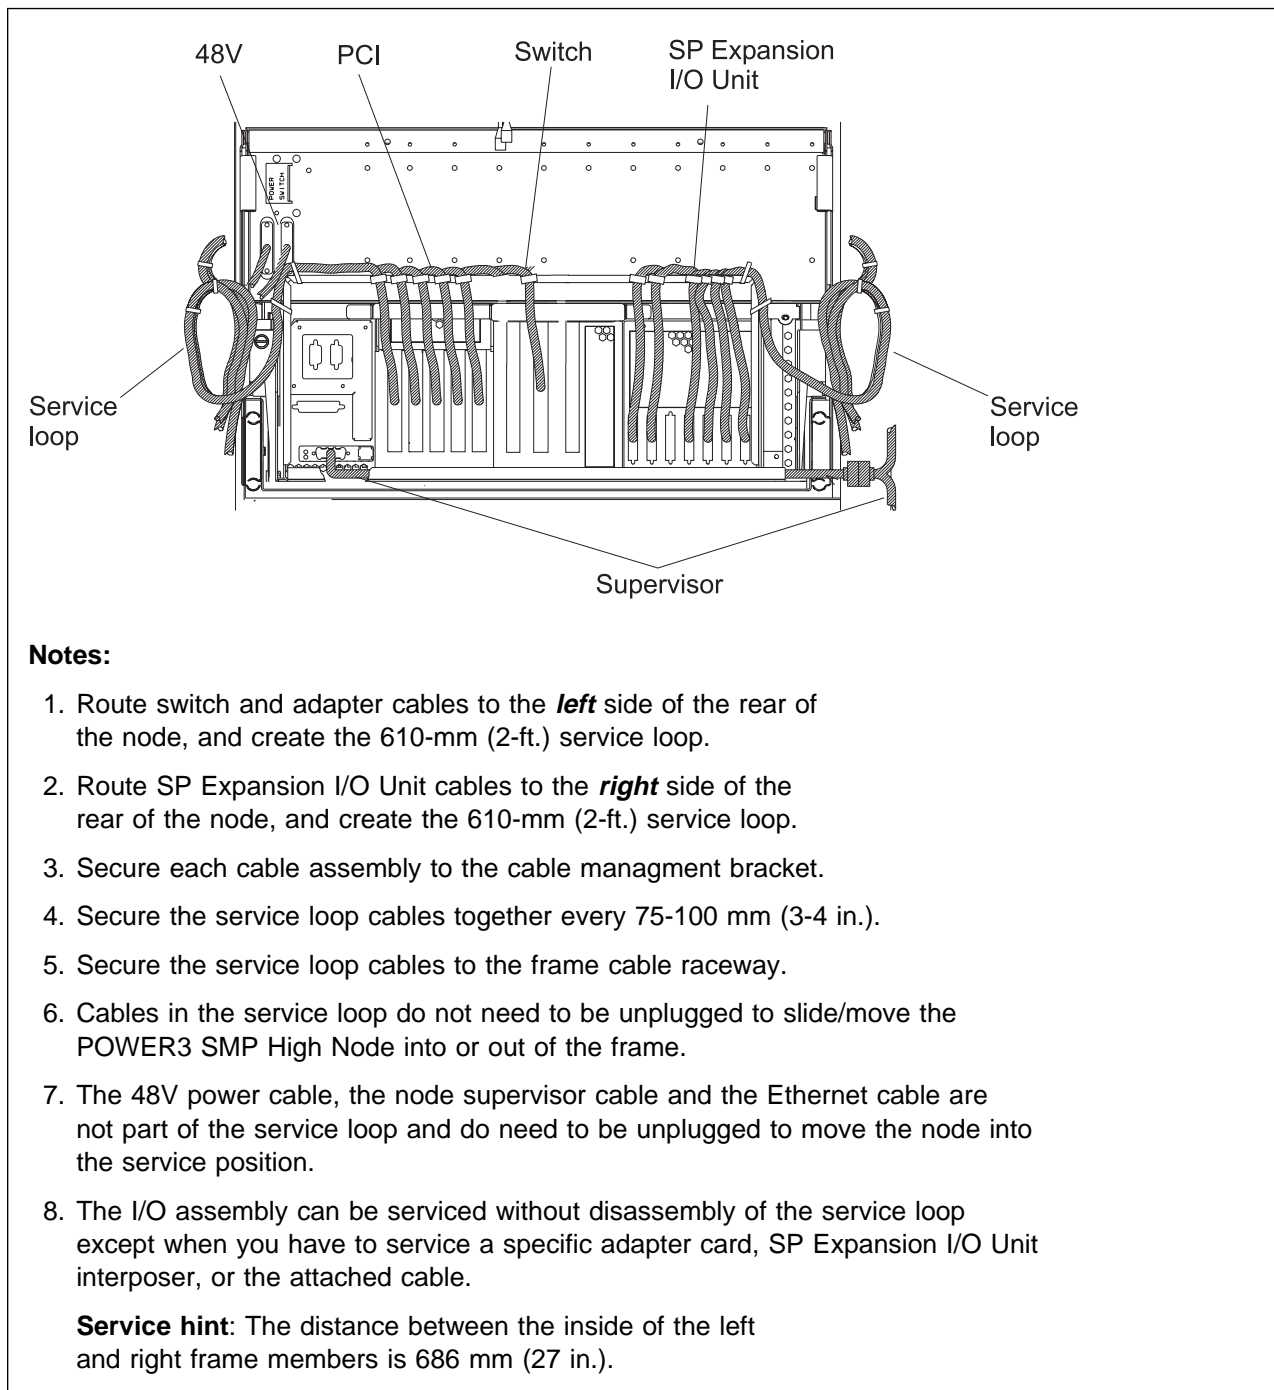

Figure 2-17. POWER3 High Node I/O cable service loops
Note: On POWER3 SMP High Nodes, ensure that there is a 610-mm (2-ft.) service loop in the switch cable so that the node drawer can be moved into the service position (see Figure 2-17 on page 2-23).
2. Ensure that there is a 610-mm (2-ft.) service loop in the SP Expansion I/O Unit cables so that the POWER3 High Node drawer can be moved into the service position; see Figure 2-17 on page 2-23.
Note: On POWER3 SMP High Nodes, ensure that there is a 610-mm (2-ft.) service loop in the adapter cables so that the node drawer can be moved into the service position (see Figure 2-17 on page 2-23).